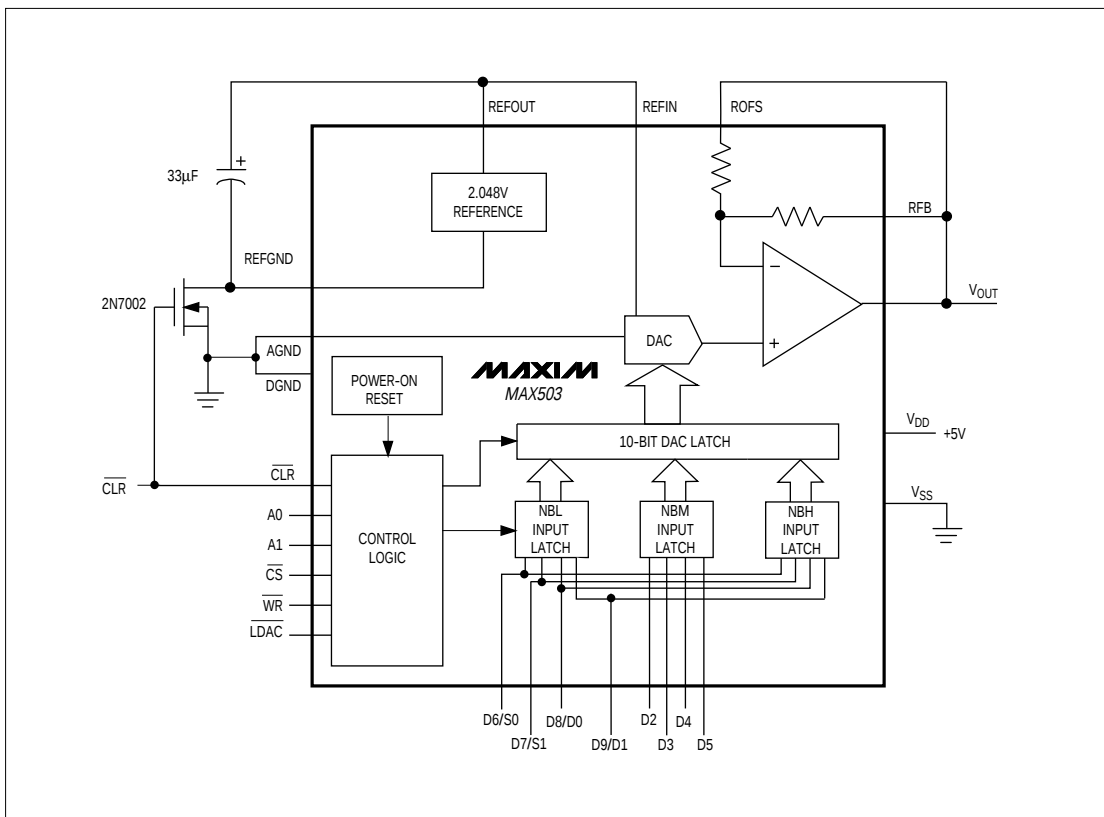

Figure 3. Low-Current Shutdown Mode
An additional 110µA of supply current can be saved when the internal reference is not used by connecting REFOUT to VDD. A low on-resistance N-channel FET, such as the 2N7002, can be used to turn off the internal reference to create a shutdown mode with minimum current drain (Figure 3). When CLR is high, the transistor pulls REFOUT to AGND and the reference and DAC operate normally. When CLR goes low, REFOUT is pulled up to VDD and the reference is shut down. At the same time, CLR resets the DAC register to all 0s, and the op-amp output goes to 0V for unity-gain and G = 2 modes. This reduces the total single-supply operating current from 250µA (400µA max) to typically 40µA in shutdown mode.
In order to provide hardware and software compatibility with the 12-bit MAX530, the MAX503 employs a 12-bit digital interface. As shown in Figure 3, there is actually a 12-bit input latch, and therefore 12 bits of data should be written. The two least significant bits (S1 and S0) are sub-LSB, and must always be 0s. Designed to interface with 4-bit, 8-bit, and 16-bit microprocessors (μPs), the MAX503 uses 8 data pins and double-buffered logic inputs to load data as $4 + 4 + 4$ or $8 + 4$. The 12-bit DAC latch is updated simultaneously through the control signal LDAC. Signals A0, A1, WR, and CS select which input latches to update. The 12-bit data is broken down into nibbles (NB); NBL is the enable signal for the lowest 4 bits (S0, S1, D0, D1), NBM is the enable for the middle 4 bits, and NBH is the enable for the highest and most significant 4 bits. Table 2 lists the address decoding scheme.